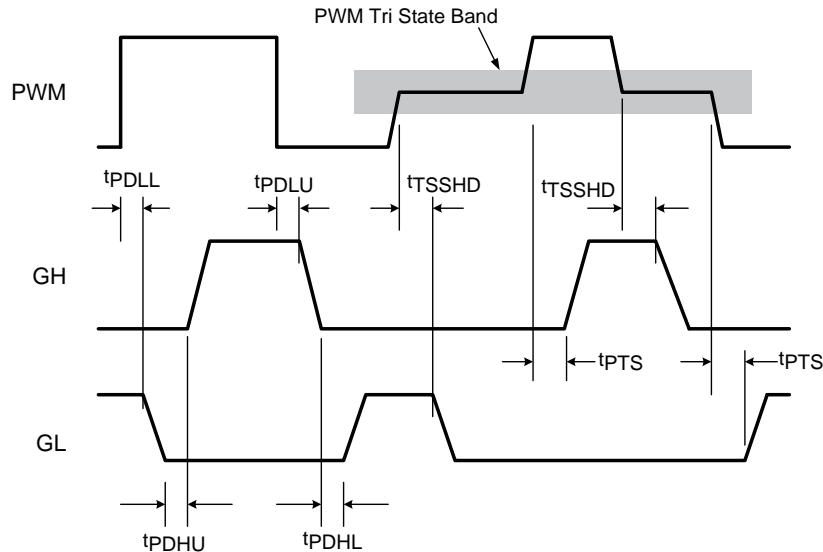

Figure 16. Timing Diagram
AOZ5007QI is offered in two versions which can be interfaced with PWM logic compatible with either 5 V (TTL) or 3V (CMOS). Refer to Figure 16 for the timing and propagation delays between the PWM input and the gate drives. The PWM is also a tri state compatible input. When the input is high impedance or unconnected both the gate drives will be off and the gates are held active low. The PWM Threshold Table (Table 1) lists the thresholds for high and low level transitions as well as tri state operation. As shown in Figure 16, there is a hold off delay between the time PWM signal enters the tri state window and the corresponding gate drive is pulled low.
**Note:** See Figure 16 for propagation delays and tri state window.